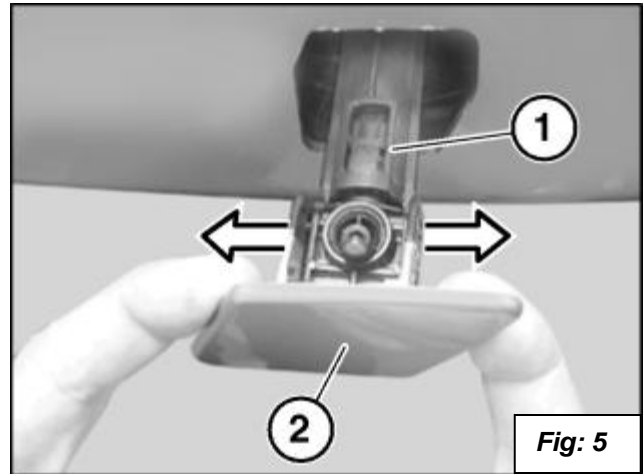

Fig: 5
8. Remove the doors for the headlight cleaning system if your car is equipped with them. Pull out spray nozzle (1) by cover (2). Hold spray nozzle and carefully unclip cover sideways and remove. **Important! Do not let go of Spray Nozzle when removing Cover!** Grip spray nozzle firmly and slowly slide back into bumper after removing cover. Letting it slam back into bumper **will damage it!** See **figure 5**